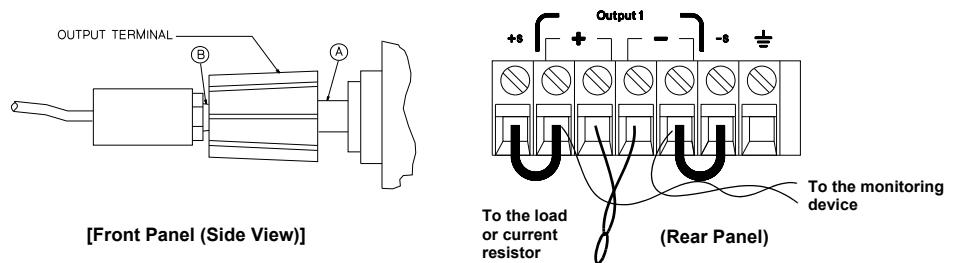

Figure 8-2 Front/rear panel terminal connections
When measuring Vrms ripple and noise, the monitoring device should be plugged into the front of the terminals at (A) in Figure 8-2. Use the vertical mini-probe socket and the 1:1 voltage probe to connect the monitor device to the power supply. To reduce the measurement error caused by common mode noise, it is recommended to twist the connection wire between the mini-probe and the output terminals. The load resistor is connected to the terminal at (B) in Figure 8-2. Twisted leads between the load resistor and the power supply help reduce noise pick-up for these measurements.